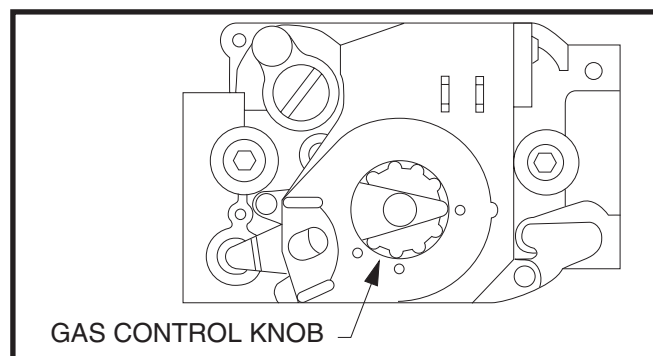

Figure 29. Direct Ignition Gas Valve - Honeywell
3. Remove the furnace door and turn off the gas valve. Push in and turn the gas control knob clockwise to **OFF**. See Figure 29 \(page 21\).
4. Wait ten (10) minutes to clear out any gas. If you smell gas, **STOP!** and follow the Safety Information. If you do not smell gas, proceed to step 5.
6. Turn the gas valve ON. Push in and turn gas control knob counter-clockwise to **ON** (Figure 29).
4. Turn gas control knob clockwise to **OFF** (Figure 29).
2. Verify the furnace On-Off switch is in the ON position. See Figure 27 (page 17) or Figure 29 (page 21).